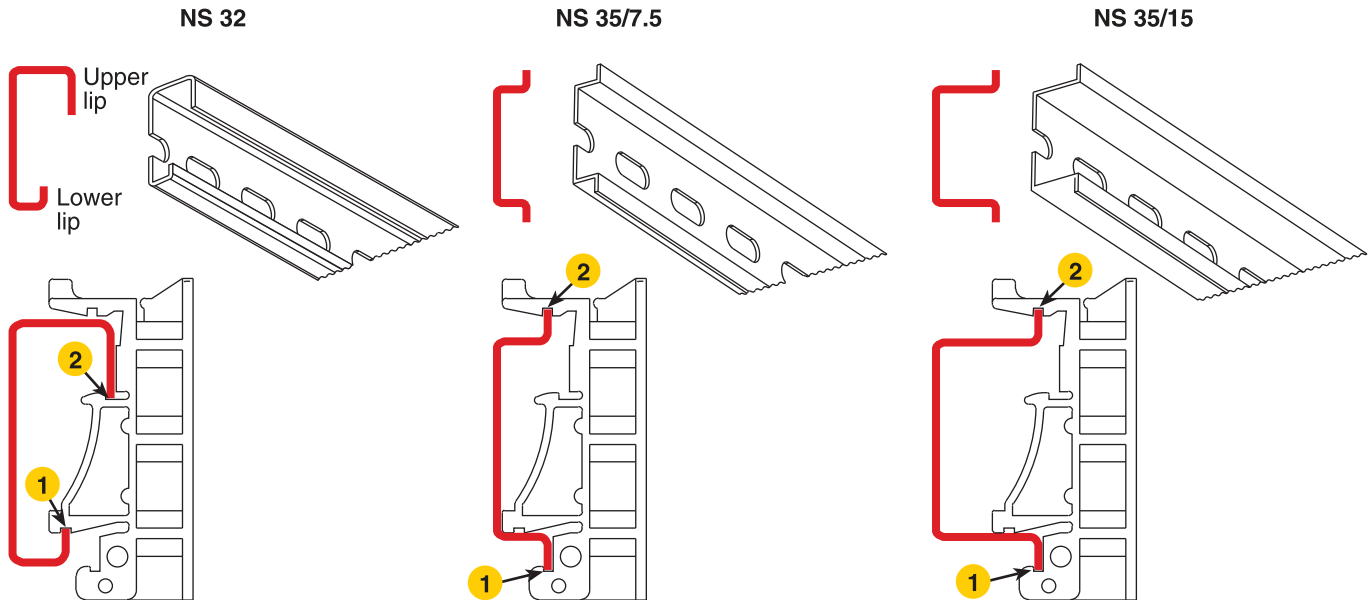

Figure 7. Installing the CL1200E onto the DIN rail
Install the CL1200E to the DIN rail by attaching the appropriate slot on the 35mm clip to the lower DIN rail lip (see callout 1 on figure 7).
5. Rotate the CL1200E until the upper DIN rail lip fits into the appropriate slot on the 35mm clip (see callout 2 on figure 7).